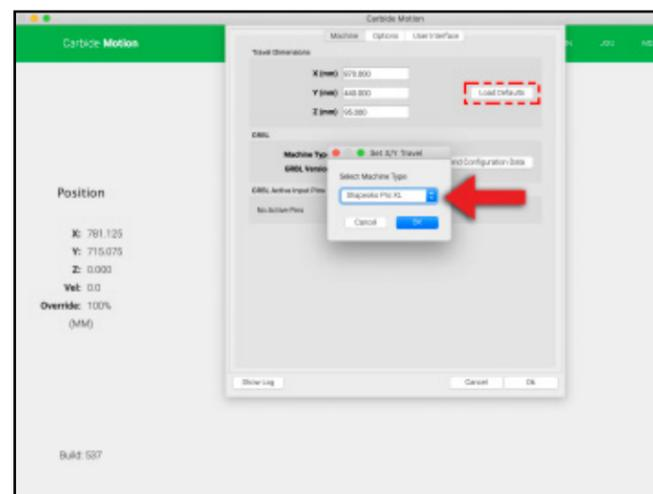

Figure 10-2
To update the machine's configuration settings (see Fig. 10-2):
2. Click the **Load Defaults** button in the *Travel Dimensions* section at the top of the window. See Fig. 10-2.